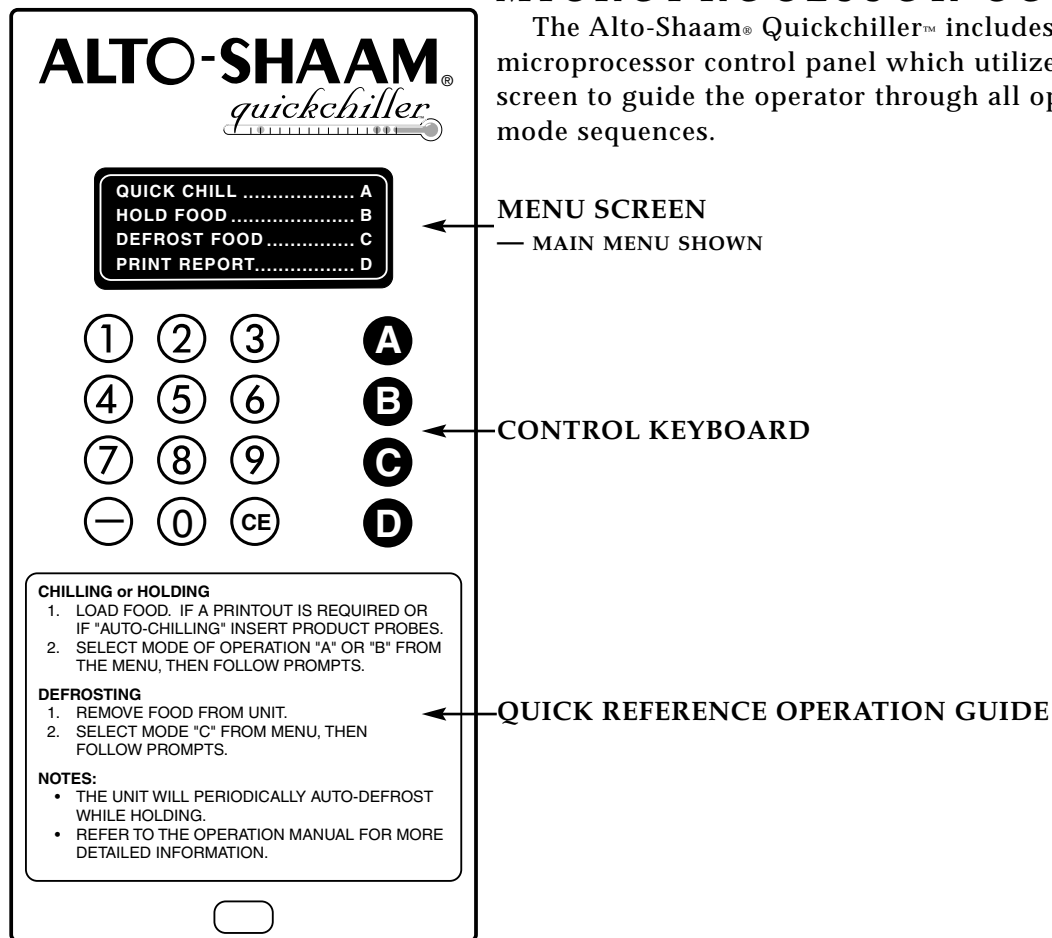

Fig. 2.1.3
- 2.1.2 The Main Menu screen must appear on the Control display (see figure 2.1.3). If the Main Menu screen appears, skip Sections 2.1.3 thru 2.1.5 and proceed with SET-UP per Section 2.2. If the Main Menu screen does not appear, proceed with Section 2.1.3.